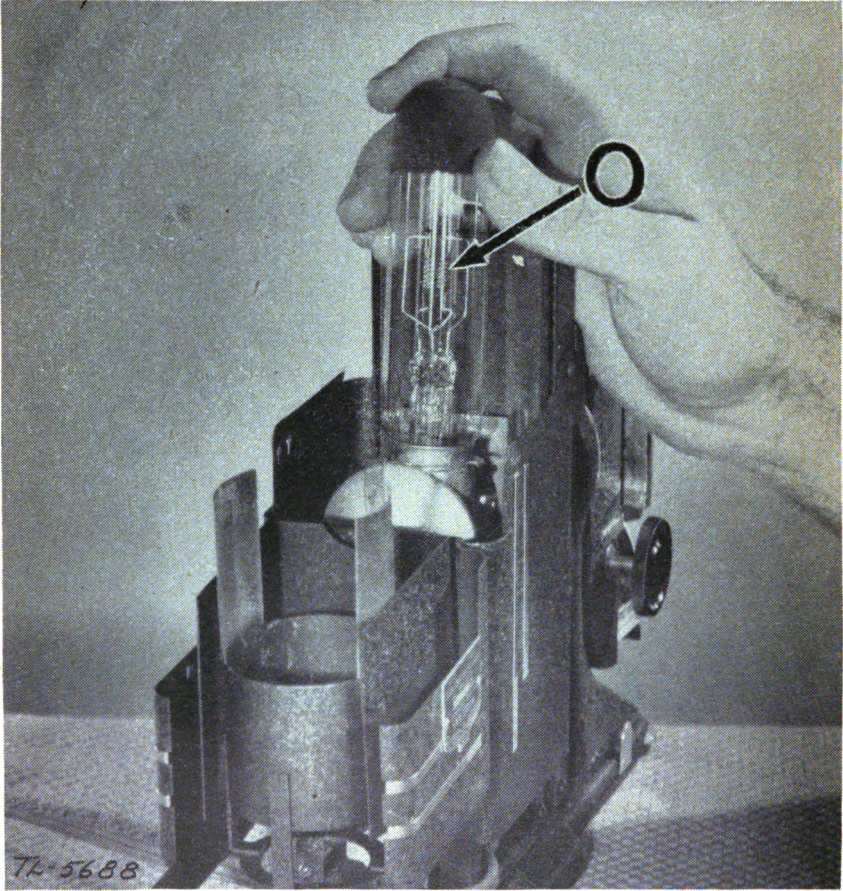

FIGURE 76.—Replacing projector lamp.
**24. Lamp.**—To remove projector lamp *O* (fig. 76), push the lamp down in its socket, rotate counterclockwise, and lift out. Reverse the procedure to replace. Lamp switch must be turned off during removal.